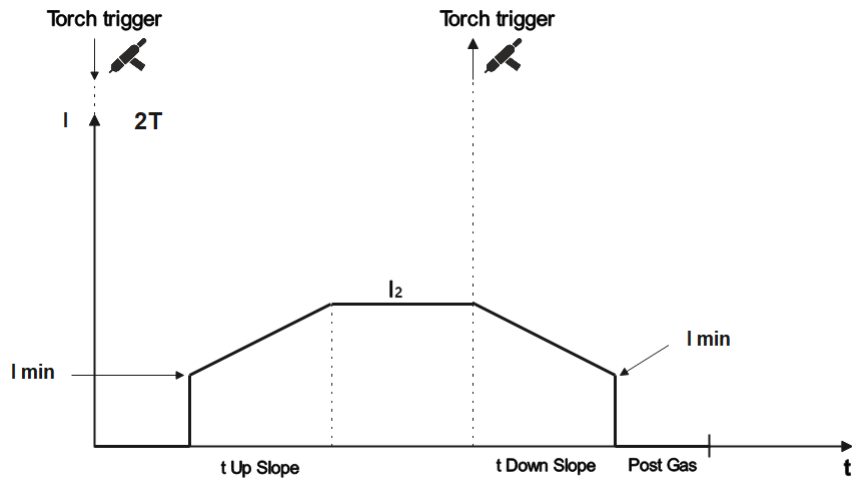

Fig 11.
** 4T - When the torch trigger is pressed, the gas begins to flow until the welder makes the ignition by LIFTIG (see Fig.11) and the arc is established. You can release the trigger. The current rises according to the UPSLOPE time for the adjusted value of I_2 . When the trigger of the torch is pressed, the current decreases according to the adjusted time of DOWNSLOPE, the arc extinguishes, and the POST GAS time begins.